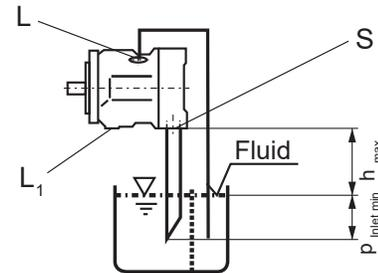

Fig. 4
- If the minimum fluid level is equal to or below the top of the pump pipe ports "L", "L1" and possibly "S" according to Fig. 4. Conditions according to 1.2.1.
- For mounting above tank see Fig. 4. Conditions according to 1.2.1.